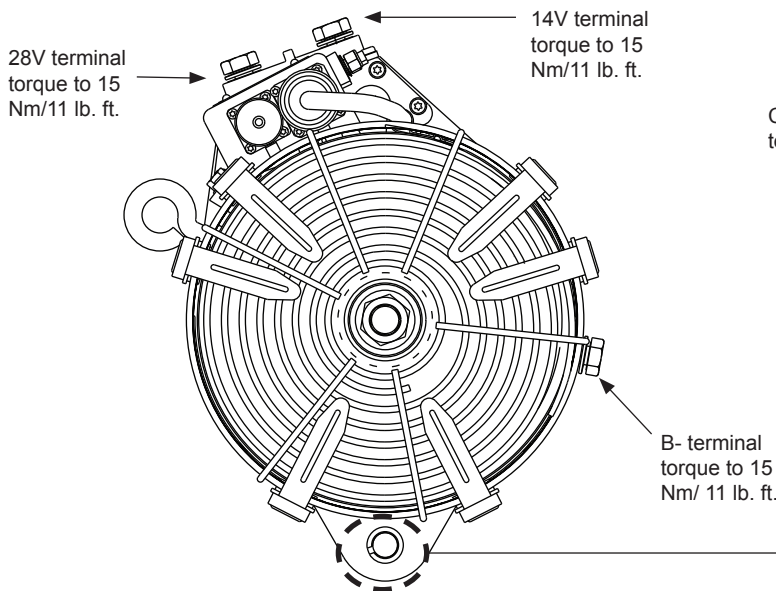

Figure 2: N1224 Alternator Installation
6. Connect vehicle B+ cables to corresponding alternator 14V and 28V terminals as shown in Figure 2. Install hardware in stacking order shown in Figure 3. Torque terminal bolts to 15 Nm/11 lb. ft.
7. Connect vehicle B- cable to alternator B- terminal. See Figure 2. Install cable hardware in stacking order shown in Figure 3. Torque B- terminal bolts to 15 Nm/11 lb. ft.